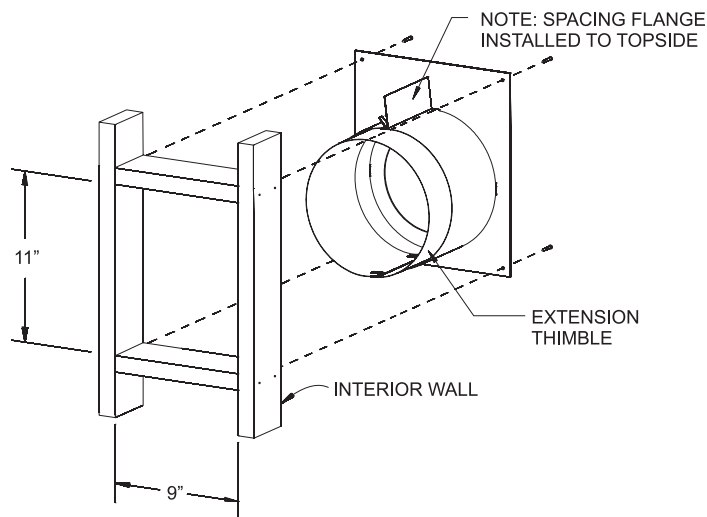

Figure 62
2. Cut hole in wall for wall thimble/firestop assembly (Figure 62) into your combustible wall. **NOTE:** On brick or block exterior wall a 7-inch diameter hole needs to be cut. Measure the total wall thickness to determine whether or not the extension thimble is to be used. If the combustible wall depth is over 5-3/8 inches, then the extension thimble should be used (Figure 62).
3. Install the wall thimble assembly through the framed opening so the firestop plate is on the interior wall (Figure 62). Telescope section should extend all the way through the exterior wall. Attach with four 10 x 1 inch screws.